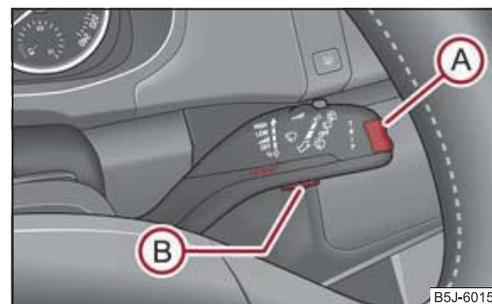

Fig. 19 Multi-functional indicator: Control elements
Switching over the memory takes place with the button **(B)** ⇒ fig. 19 on the windshield wiper lever.
The rocker switch **(A)** and the button **(B)** are located on the windshield wiper lever ⇒ fig. 19.
If the outside temperature drops below +4°C, a snow flake symbol (warning signal for ice on the road) appears in front of the temperature indicator and flashes for 10 seconds, then remains displayed together with the outside temperature. At the same time an audible signal sounds. After pressing the rocker switch **(A)** on the windshield wiper lever ⇒ page 19, fig. 19, the function which was shown last is indicated.
The driving time which has elapsed since the memory was last erased, appears in the display ⇒ page 19. If you wish to calculate the driving time from a particular time of day you must first erase the memory at this moment in time by pressing the button **(B)** ⇒ page 19, fig. 19.
If you wish to determine the average fuel consumption over a certain period of time, you must erase the memory at the start of the new measurement using the button **(B)** on the windshield wiper lever ⇒ page 19, fig. 19. A zero appears in the display for approx. the first 300 m you drive after erasing the memory.
The distance driven since the memory was last erased appears in the display ⇒ page 19. If you wish to calculate the distance driven as of a particular time, you must erase the memory at this moment in time by pressing the button (B) on the windshield wiper lever ⇒ page 19, fig. 19.
The average speed since the memory was last erased is shown in the display in km/hour ⇒ page 19. If you wish to determine the average speed over a certain period of time, you must erase the memory at the start of the new measurement by pressing the button (B) on the windshield wiper lever ⇒ page 19, fig. 19.
- With switch (A) ⇒ page 19, fig. 19, choose the menu point **Warning against excessive speeds**.
- Press the button (B) to active the ability to set the speed limit (value flashes).
- Use the button (A) to adjust the required speed limit, e.g. to 50 km/h.
- Confirm the speed limit that was set with button (B), or wait approx. 5 seconds until the setting is saved automatically (the value stops flashing).